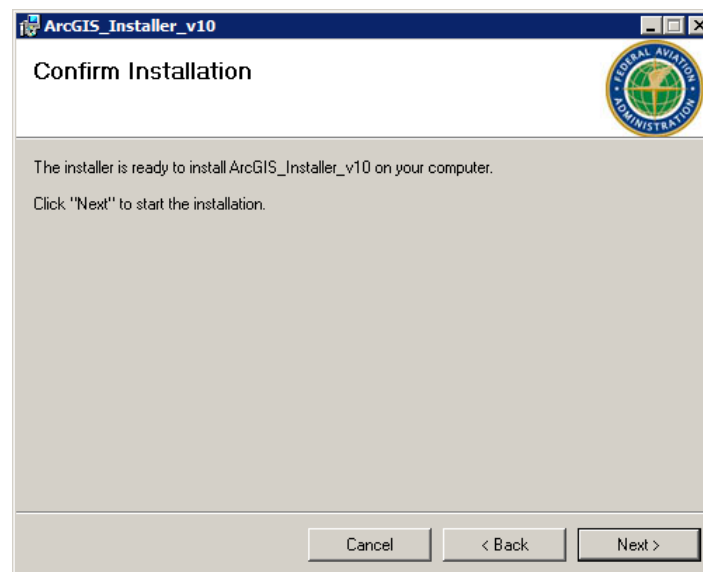

Figure 2-13 ArcGIS Setup Wizard – Confirm Installation
5. Click *Next* to start the installation (Figure 2-13).